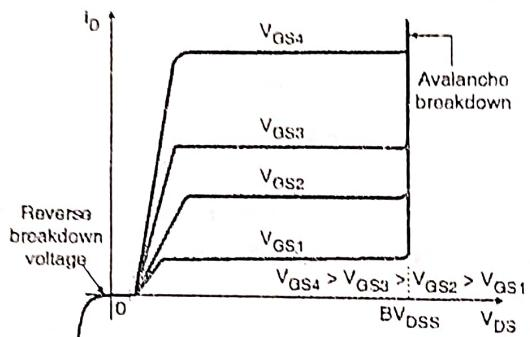

Fig. 2.10.1 : IGBT I-V characteristics
- The I-V characteristics of IGBT is as shown in Fig. 2.10.1.
- As seen from the Fig. 2.10.1, the drain current (or the collector current) increases with increase in the voltage between gate and source (V_{GS}).